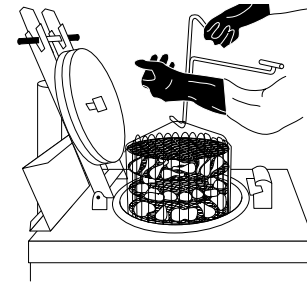

FIGURE 9
5. **DANGER:** When Load signal comes on, use safety gloves and basket drain hook to lower basket slowly into hot cooking oil (Figure 9).